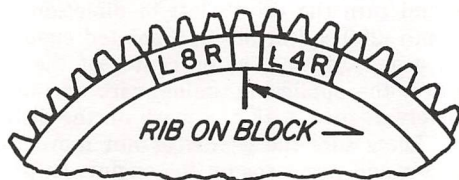

Figure 5-2. Timing Marks-4 cyl. 1200 Series
(1) Remove a spark plug from No. 1 cylinder and place a thumb over the spark plug hole. Rotate the crankshaft in direction of normal rotation until the compression stroke is reached, this is indicated by a positive pressure inside the cylinder tending to push the thumb off the spark plug hole. Continue rotating the crankshaft until the advance timing mark on the front face of the starter ring gear is in alignment with the small hole located at the two o'clock position on the front face of the starter housing. (Ring gear may be marked at 20° and 25°. Consult specifications for correct timing mark for your installation.) At this point, the engine is ready for assembly of the magnetos.
(2) *Single magneto* - Remove the inspection plugs from both magnetos and turn the drive shaft in direction of normal rotation until (-20 and -200 series) the first painted chamfered tooth on the distributor gear is aligned in the center of the inspection window (-1200 series) the applicable timing mark on the distributor gear is approximately aligned with the mark on the distributor block. See figure 5-2. Being sure the gear does not move from this position, install gaskets and magnetos on the engine. Note that an adapter is used with impulse coupling magneto. Secure with (clamps on -1200 series) washers and nuts; tighten only finger tight.